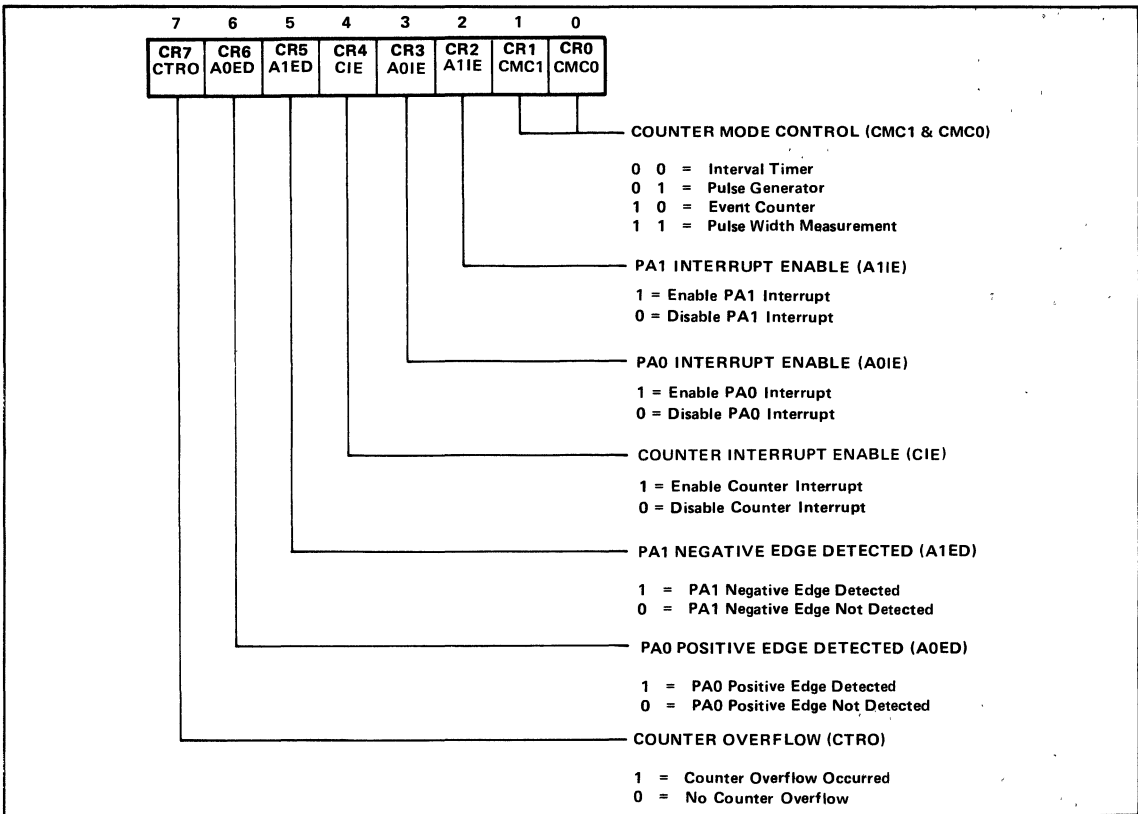

Figure 3-4. Control Register (CR)
The Control Register (CR), shown in Figure 3-4, is located at address 08F. The CR contains five control signals and three status signals.